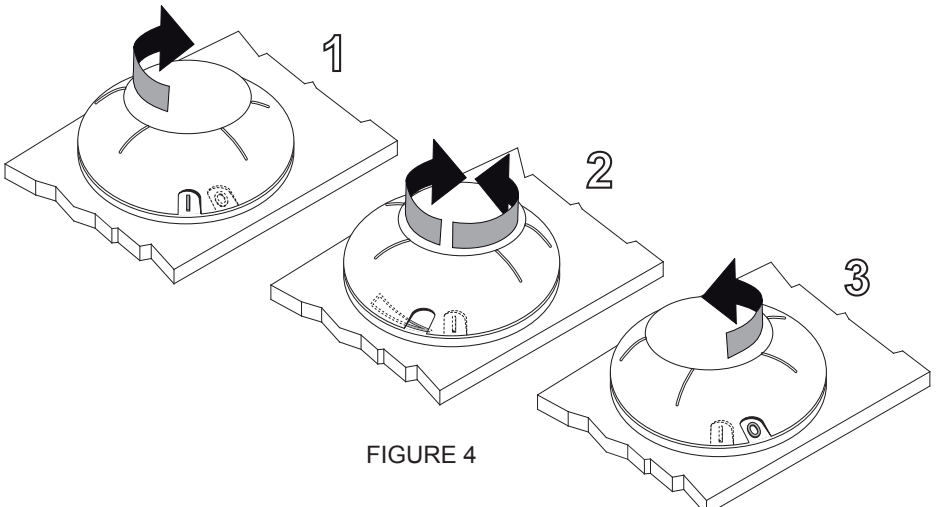

FIGURE 4
- By turning the ring from “O” to “I” (detail 1 figure 4) the hydromassage system starts.
- Adjust the air flows by turning the ring clockwise or anticlockwise (detail 2 figure 4) on the symbol “”.
- To stop the hydromassage system turn the ring on the “O” symbol (detail 3 figure 4).